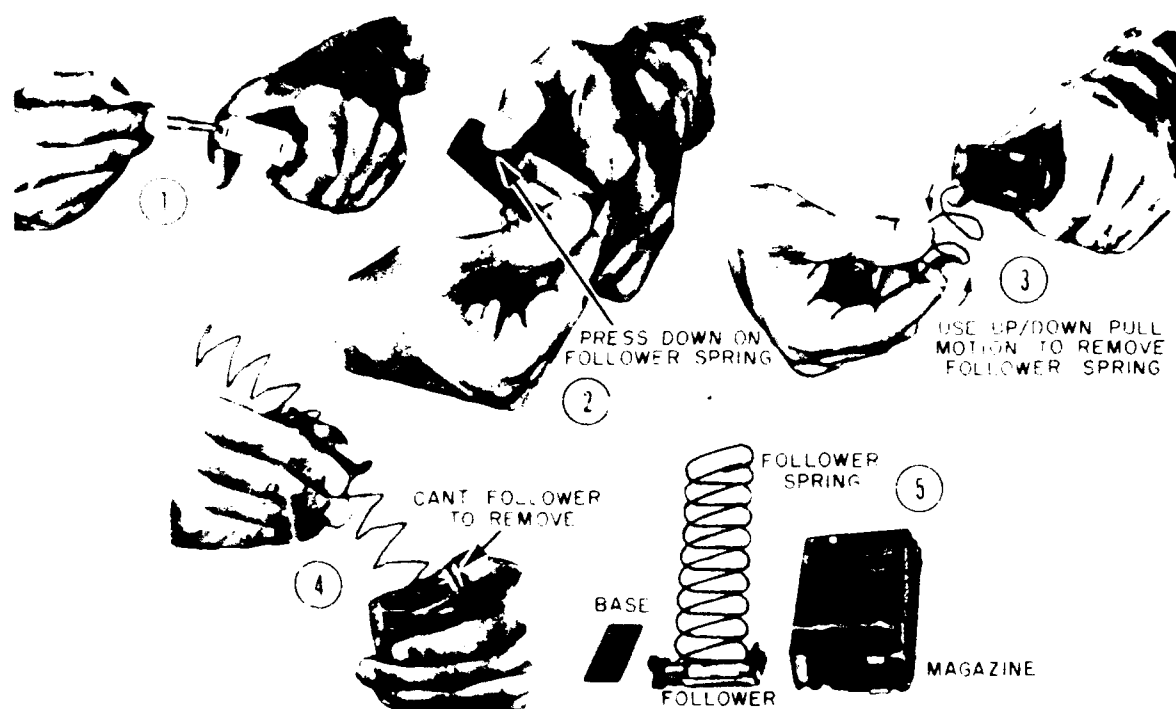

Figure 4-28.—Disassembly of the 20-round magazine.
5. **AMMUNITION MAGAZINES.** After removing all cartridges from the magazine, depress the spring steel lock band on the bottom of the magazine, using the nose of a cartridge (view 1, fig. 4-28). Slide the base until it is free of the tabs, and remove it from the magazine body (view 2, fig. 4-28). Remove the magazine spring and follower (view 3, fig. 4-28), but do not remove the follower from the spring (views 4 and 5, fig. 4-28). Clean the exterior and interior of the